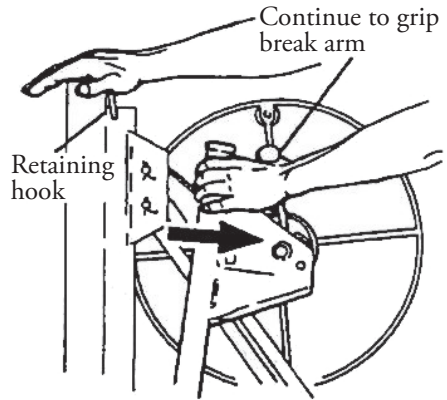

Fig. 5
- Place your right hand on top of the frame. Continue to grip the brake arm as needed to prevent cable backlash, and pull the winch assembly all the way toward you. (Fig 5)